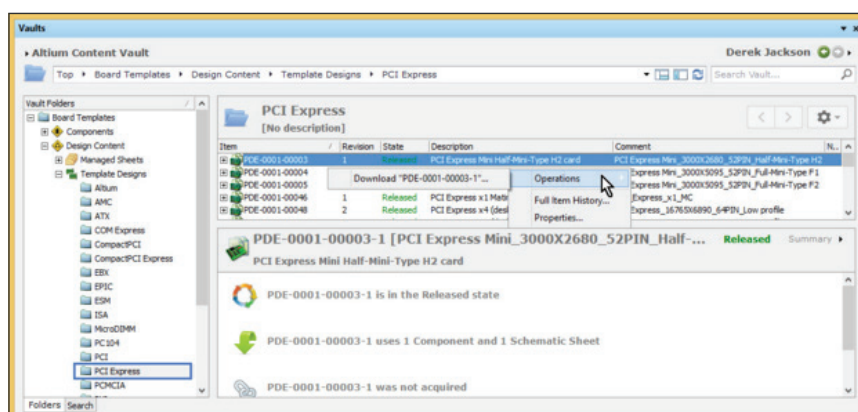

Figure 6 - Project Template Design Example Download
3. Under the Vault folders, **Board Templates » Design Content**, there are a number of template types available. Right-clicking on the Template Design and selecting Download from the Operations popup will allow the design template to be downloaded as shown in **Figure 6**.